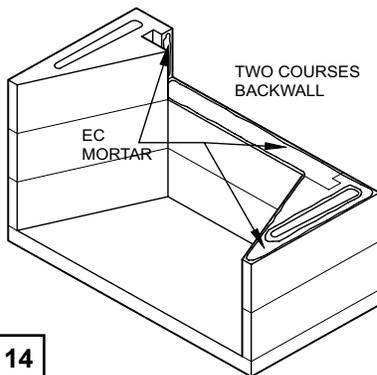

FIGURE 14
Step 3: Continue assembly of the consecutive courses of the firebox side wall and back wall. (Three courses for the Isokern Standard Series, Four courses for the Magnum Series). Apply mortar to the top of each layer of wall components, set the next course above into place. Be sure to mortar all vertical joints of the side wall to back wall connection when setting each component to its mate. (Figure 14)